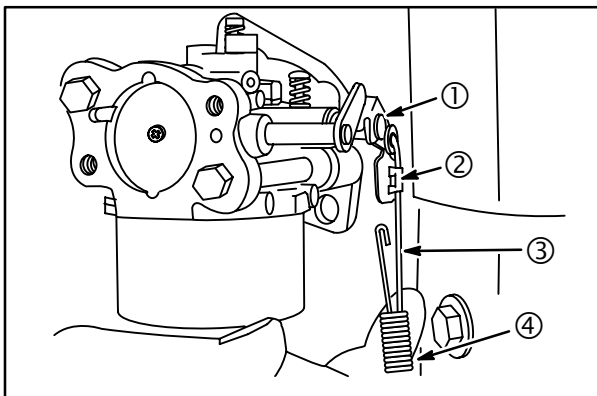
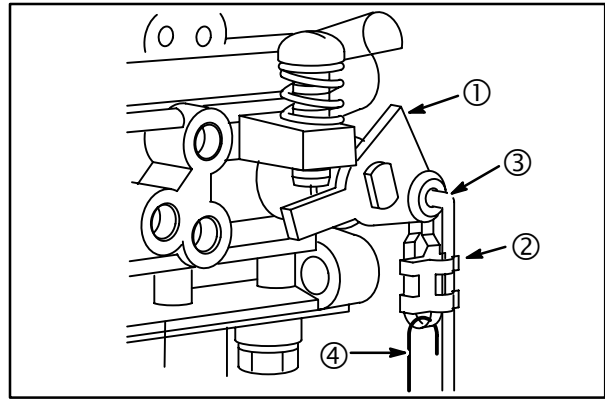

Fig. 25
Fig. 26
- Connect governor link (3) to throttle lever (1). Snap retainer (2) over link, **single barrel carburetor, Fig. 25, two barrel carburetor, Fig. 26**.
- Install governor link spring (4) in loop on retainer.